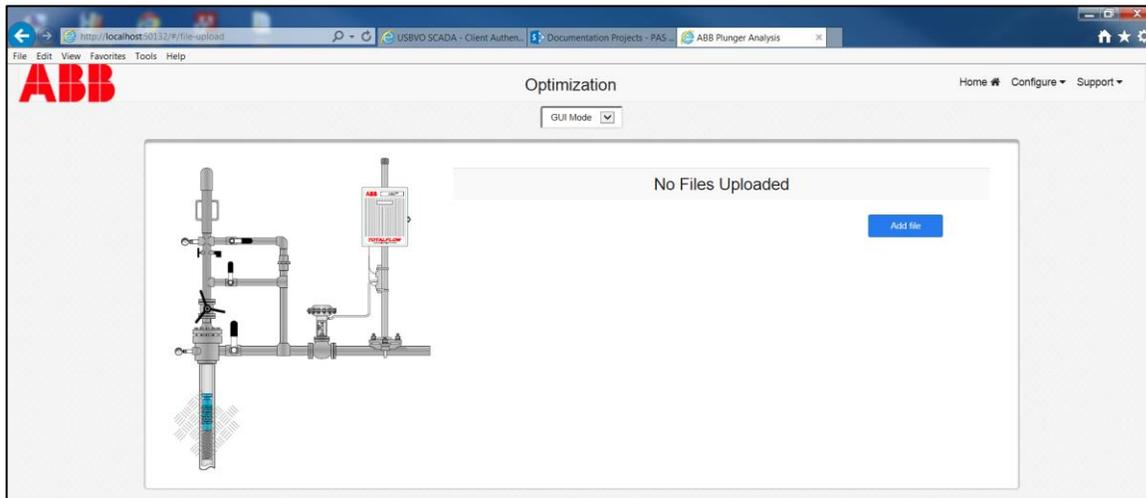

Figure 49: Optimization file upload screen in GUI mode
- 2) Verify that the Optimization file upload screen displays (Figure 49).